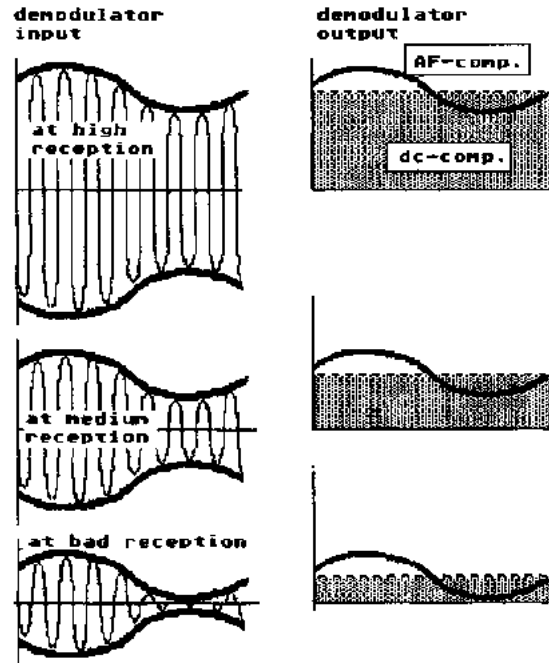

fig. 188
- the second part is the dc-component - the distance of the AF-sinewave from the noughtline. This second part is the one which gives us an information about the reception strength (as represented in fig. 188).**